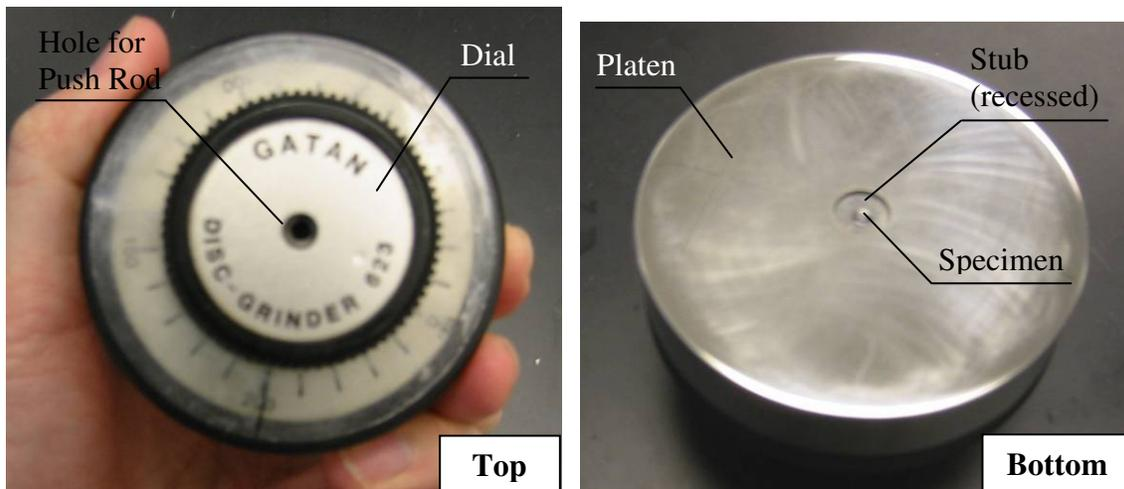

Figure 8 Gatan Disk Grinder (top-view showing the dial; bottom view showing the platen and stub with specimen).
- (1) Place the specimen stub of the Gatan Disk Grinder onto a heated hotplate;
- (2) Place some wax (enough to wet the specimen) on the heated stub;
- (3) Place a specimen on the melted wax. Cross-sectional side up;
- (4) Use a pair of tweezers to apply some pressure over the specimen to ensure that it is flat against the stub surface;
- (5) Remove the stub for cooling;
- (6) Turn the dial on the disk grinder counter-clockwise to retract the piston (see Figure 8 – top);
- (7) Insert stub into the hole of the polishing platen such that it is against the piston (see Figure 8 – bottom);